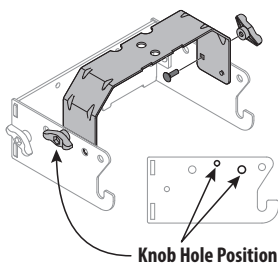

Figure 4 (1)
2. Flip over the assembly and mount the hitch support bracket to the universal support bracket (783-08129) using two carriage bolts (710-0276) and wing knobs (720-04122) from hardware pack 689-02364. See Figure 4 (1).